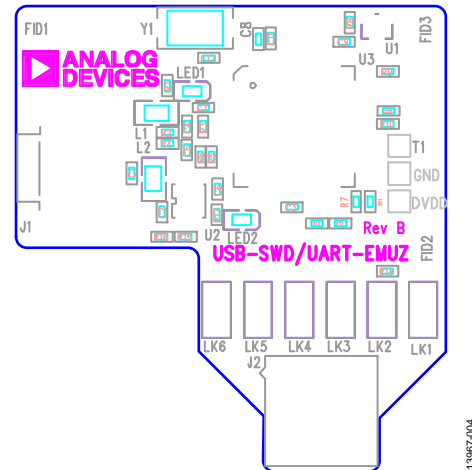

Figure 4. Emulator, Top View
1. Insert the USB cable provided between the PC and the J-Link OB emulator (emulator shown in Figure 4).